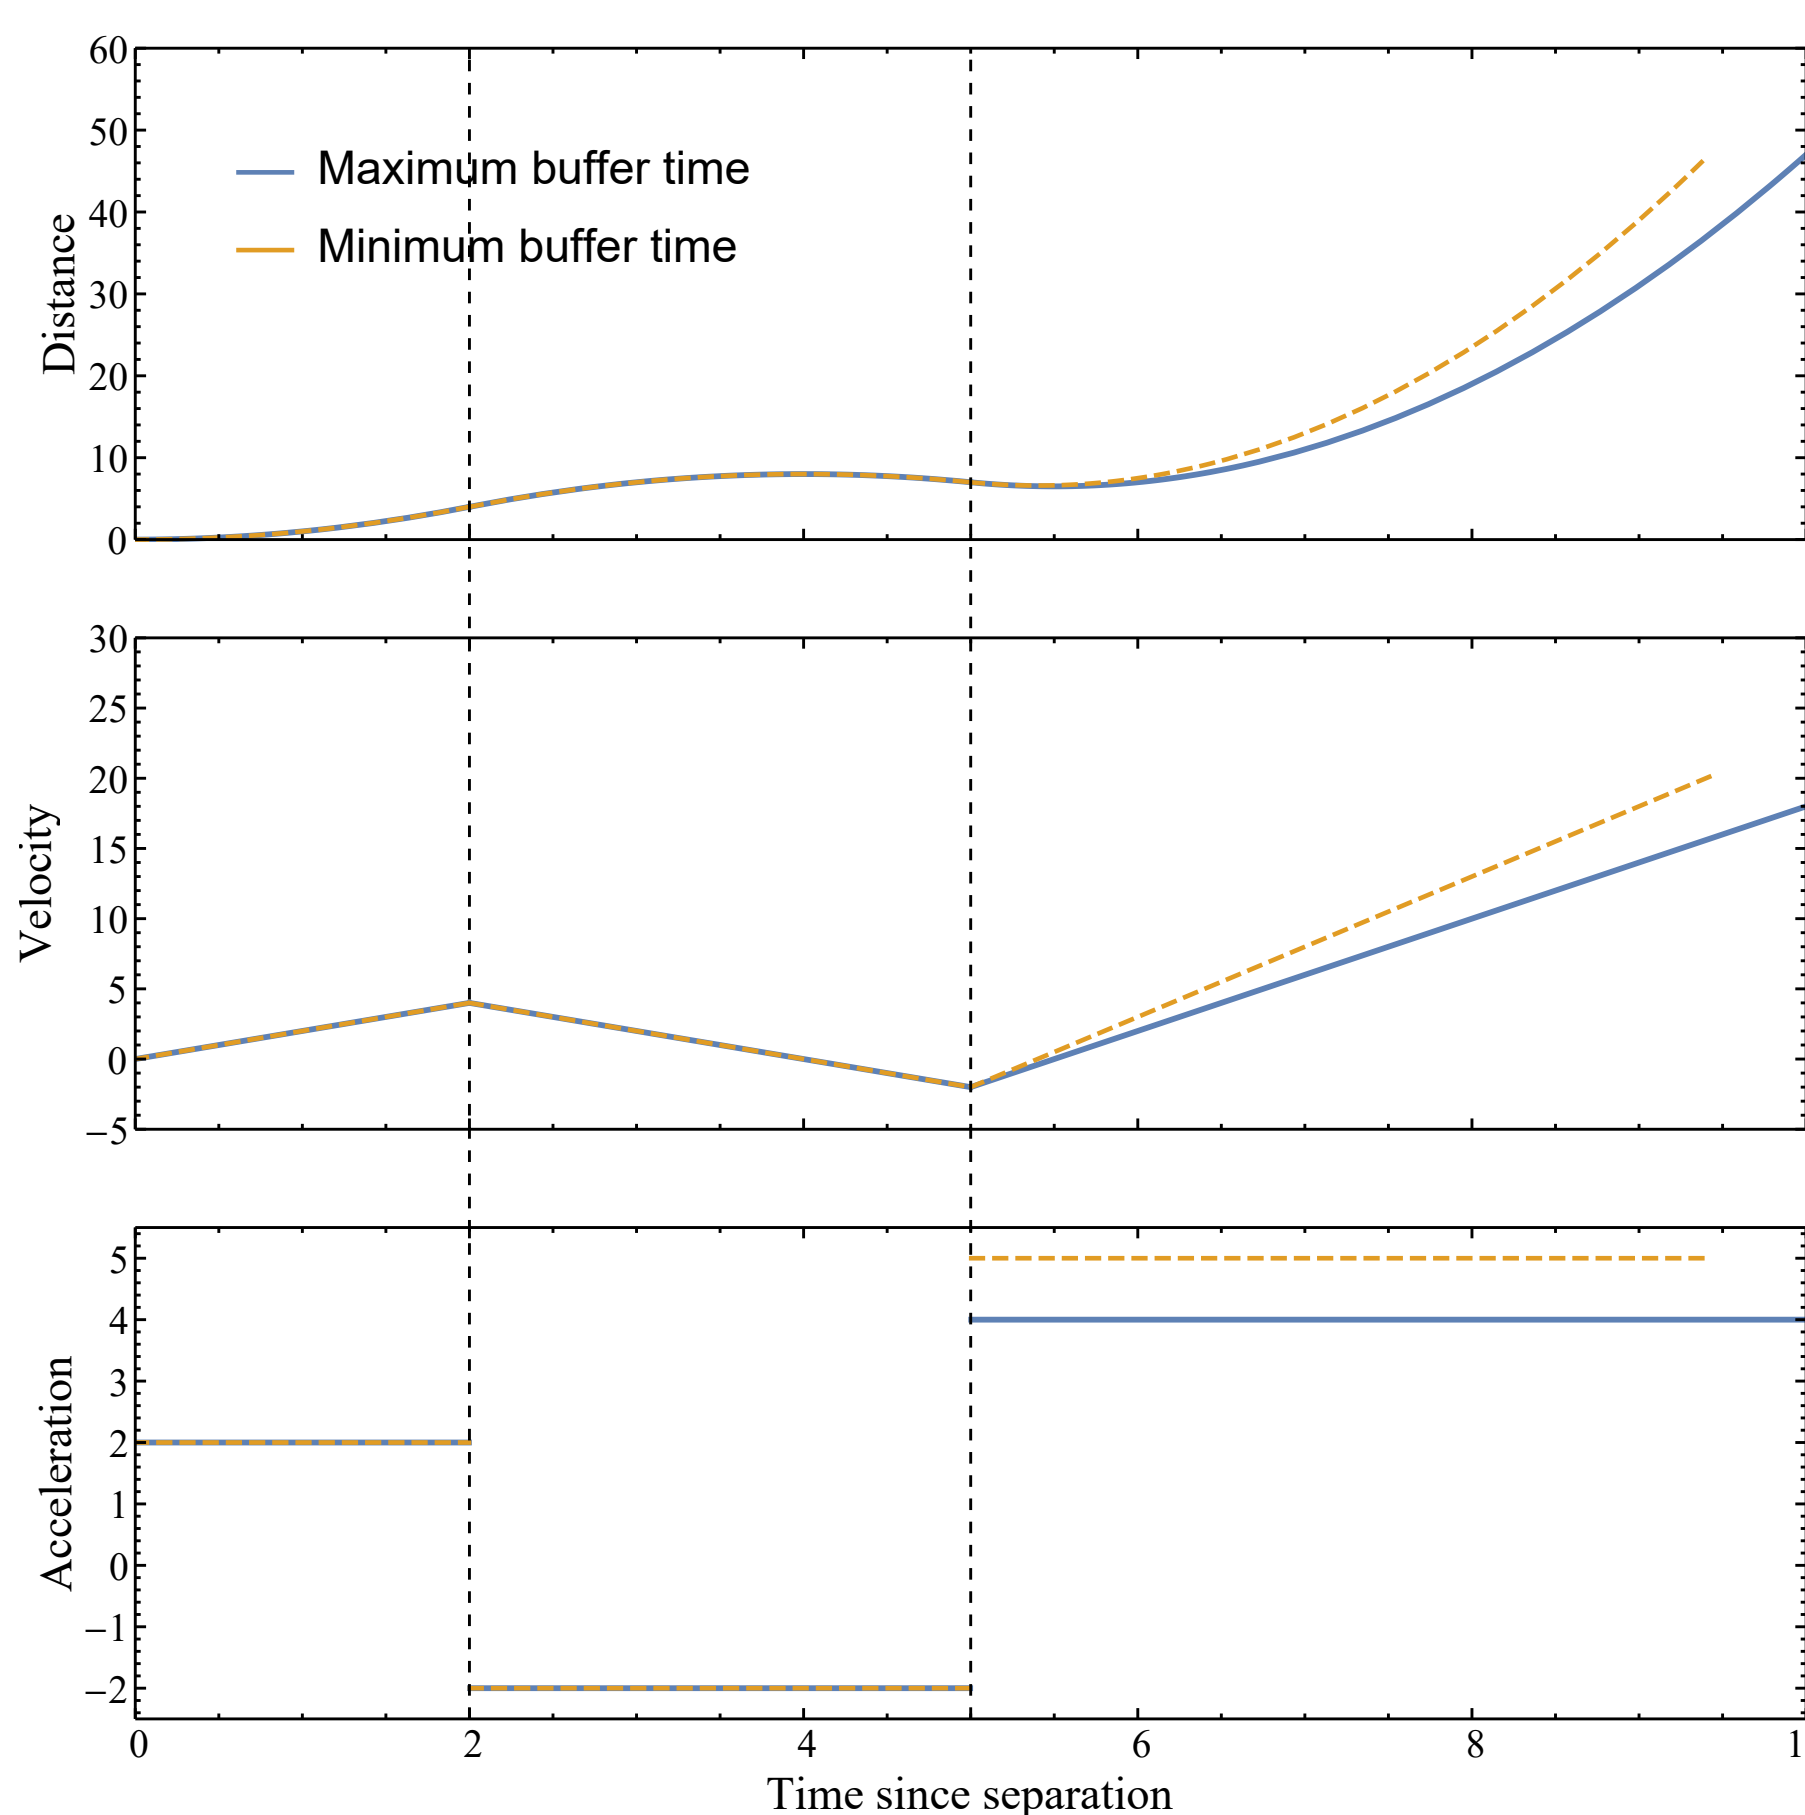

Figure 3. Example sheet position profile
- sheet position (piecewise second order polynomials, Figure 3)